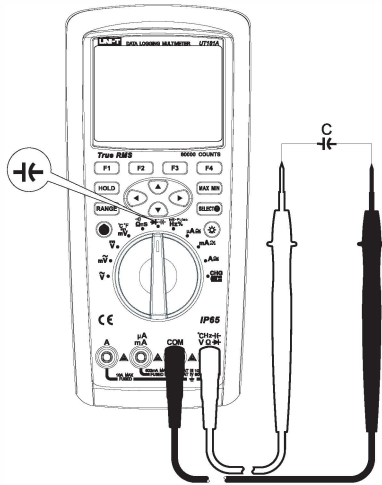

Figure 9
- 2) Set the rotary switch to the measurement  $\text{F}$  , press the key SELECT to select capacitance measurement. Connect the test leads to both ends of the measured capacitance as shown in Figure 9.